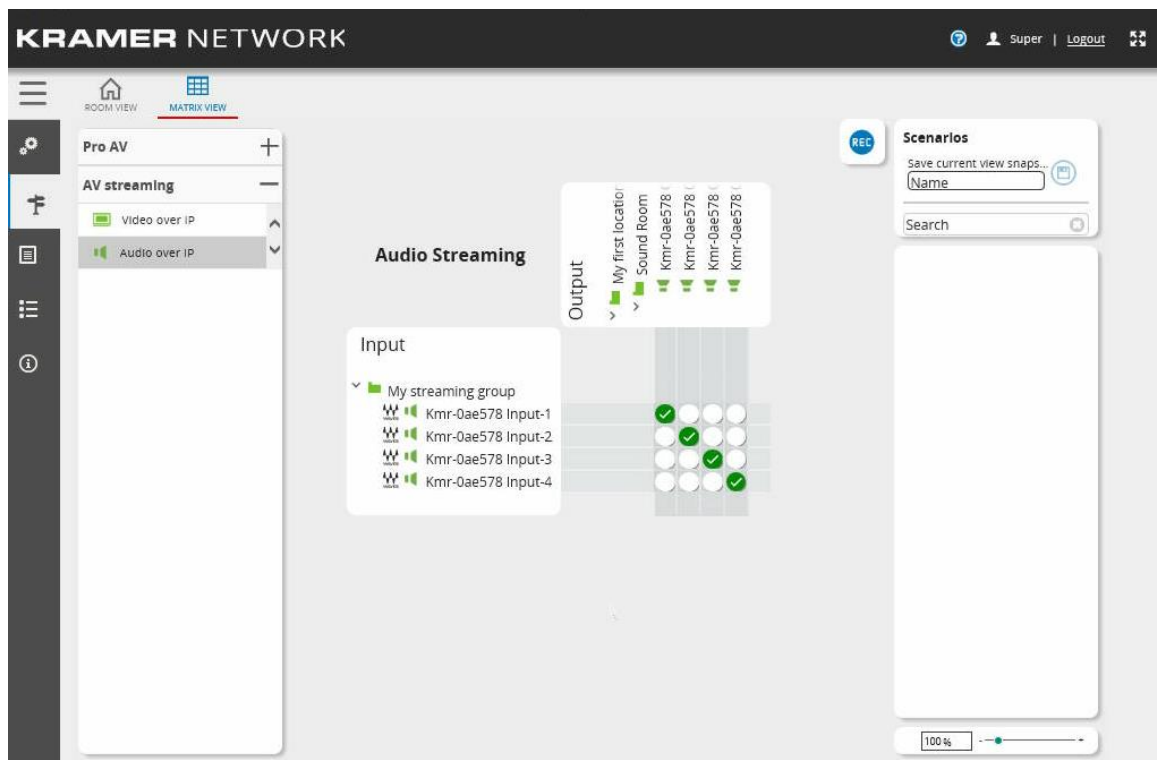

Figure 12: Kramer Network – Audio over IP Streaming
4. Click a white cross-point button to connect an input to an output. For example, in Figure 12, Input 1 (in My Streaming Group) is routed to Output 1 (in the Sound Room).